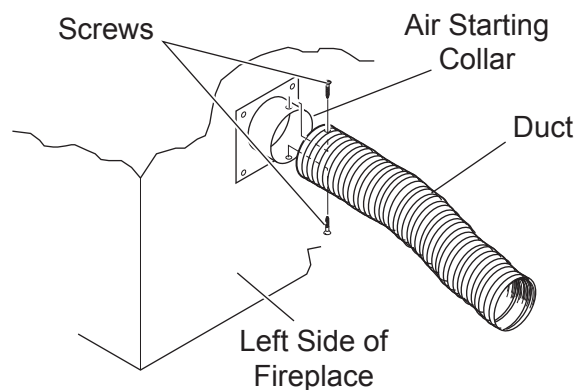

Figure 14 - Attaching Outside Duct to Starting Collar
4. Select and cut a piece of duct long enough to attach to the fireplace and stick out at least 3" beyond the face of the wall to which the OAC-4 inlet air vent will be attached. Cut duct with a standard pocket knife. *See Figure 14.*